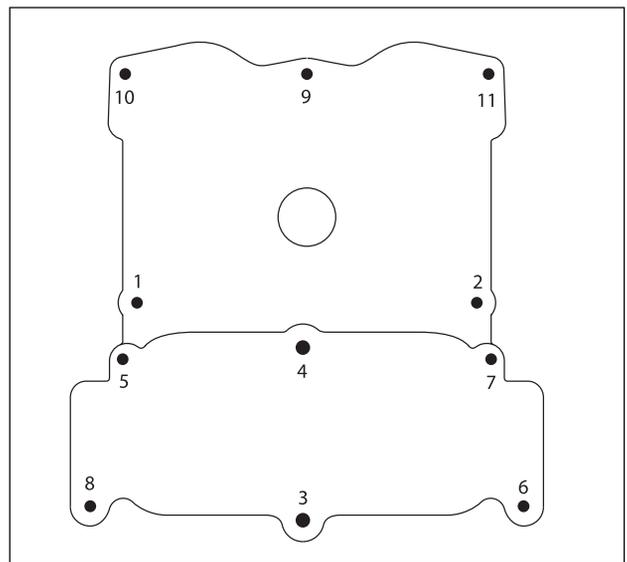

Figure 1-62. Cam Cover Torque Sequence
- See Figure 1-62. Loosen all cam cover fasteners in reverse order of torque sequence.